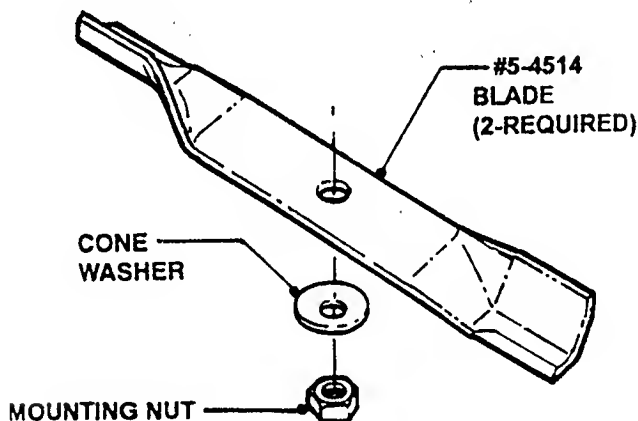

FIGURE 2
**STEP 2: High Lift Blade Installation.** Engines that produce 14 horse power or more. Remove existing blades from mower. Note: Save old blades for later use when not bagging grass. Using existing hardware and install high lift type blades. Torque blade retaining bolts to 80 to 90 ft. lbs. See Figure 2.